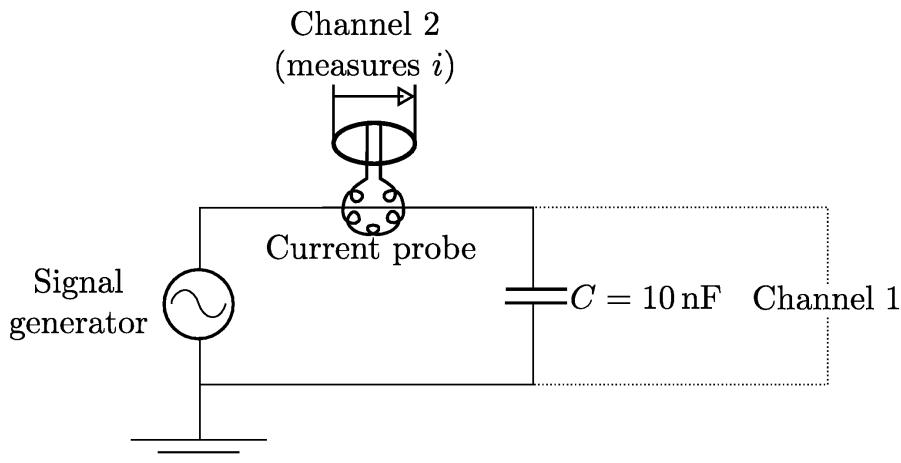

Figure 3: Determining the reactance of a capacitor.
- Set up the circuit shown in Figure 3. Set the signal generator to a frequency of 15 kHz, with the voltage set to maximum. Check that the probe on each channel is set to $\times 1$.